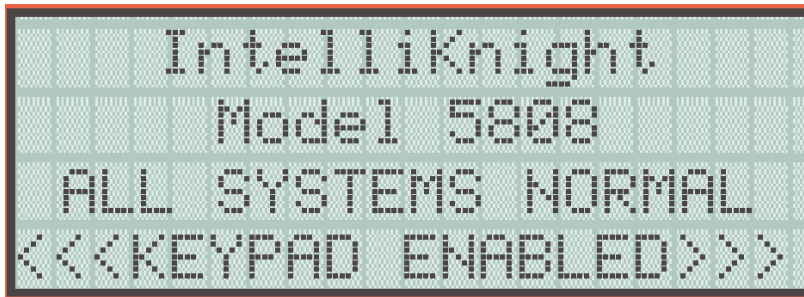

Figure 6-7 Keypad Enabled Screen
2. The display prompts you to press the  or  key to bring up the Main Menu (see Figure 6-7).